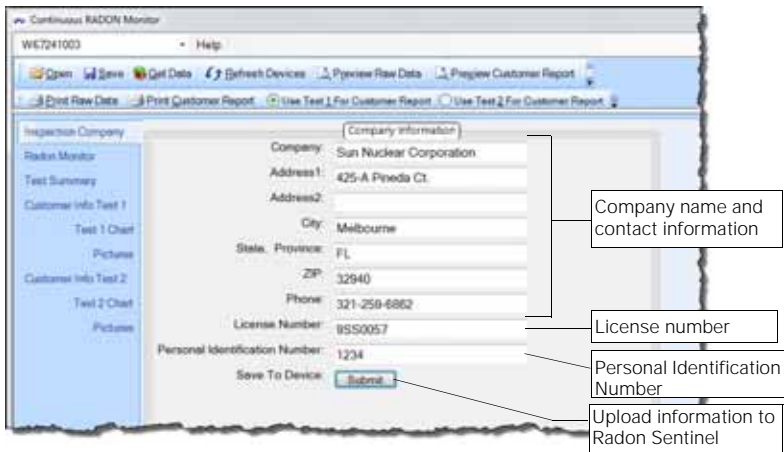

Figure 14. Company Information
- 3 Select **Radon Monitor** in the navigation panel. Information about the selected radon monitor displays (Figure 14).